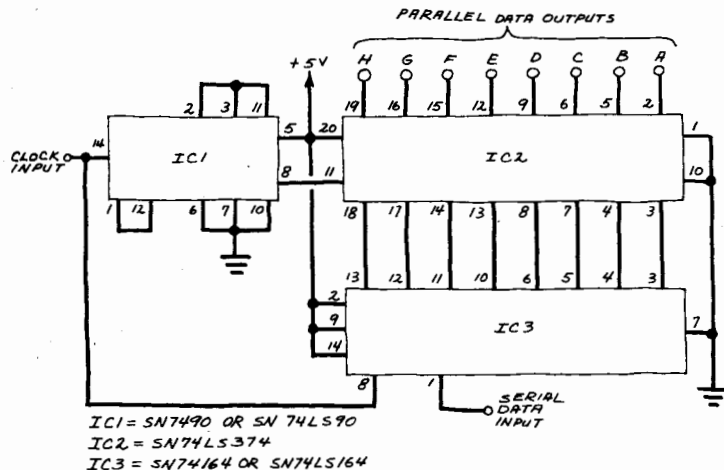

Fig. 4. Schematic of an 8-bit serial-to-parallel data converter.
**8-Bit Serial-to-Parallel Data Converter.** Here's a circuit that you can use to load serial data onto an 8-bit data bus. Referring to Fig. 4, clock pulses are applied simultaneously to